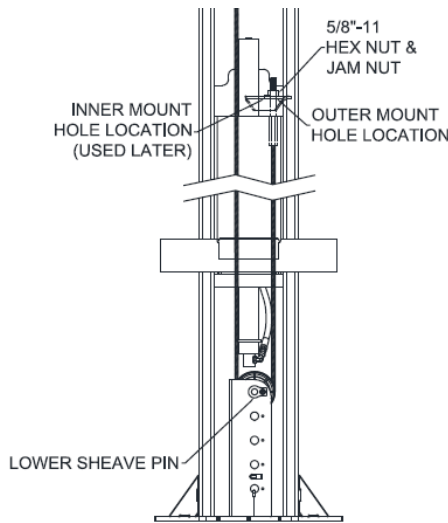

Fig. 2 - Cable Routing Layout
2. Remove hex bolt and sheave pin from sheave bracket, **Fig. 2**